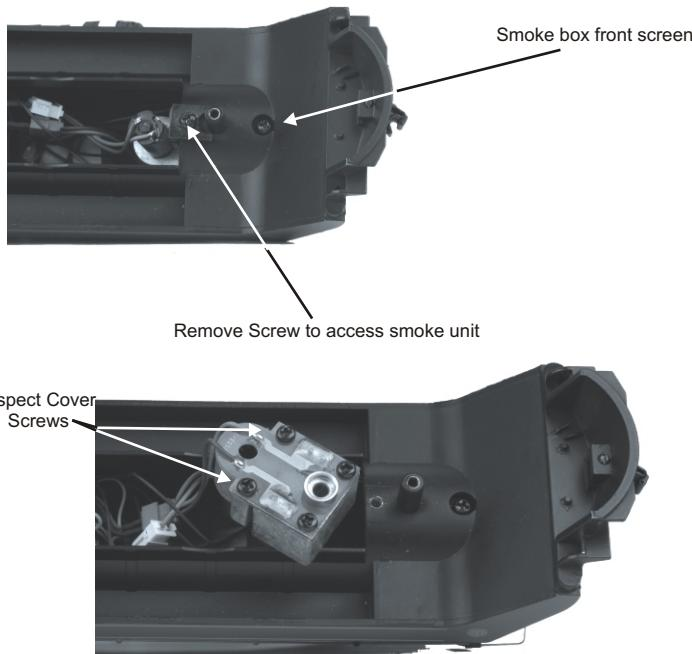

Figure 19: Inspection Cover Screws
4. Remove screws holding smoke box front in place. The screw is at the bottom of the smoke box. See figure19 on page 22.